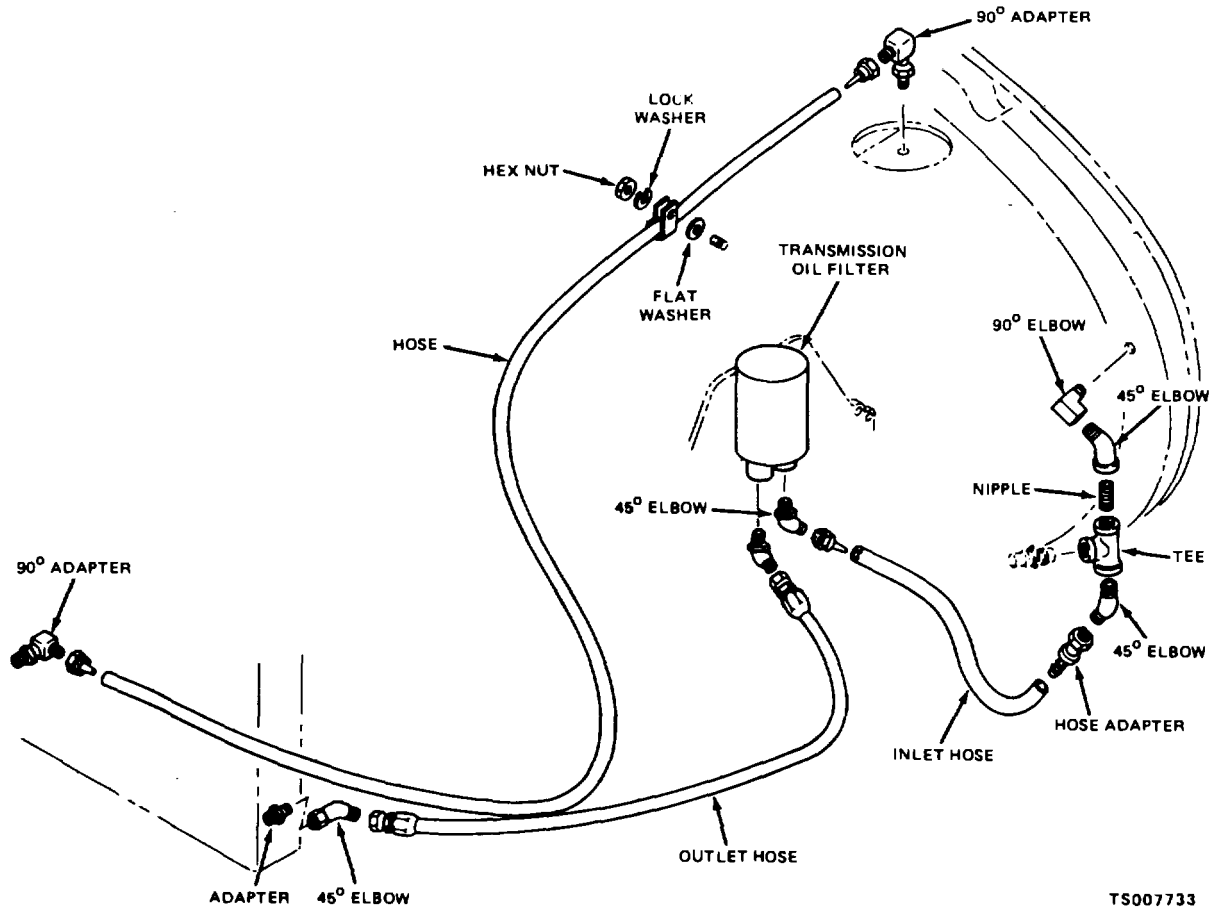

Figure 4-60. Transmission Oil Filter, Lines and Fittings, Removal and Installation
b. Removal and Disassembly. Remove and disassemble the transmission oil filter and lines as shown in figure 4-60.
(4) Inspect the hoses for cracks, deterioration, abrasions, and damaged threads; replace damaged hoses.
(5) Inspect all other parts for cracks, distortion, and damaged threads; replace damaged parts.
d. *Reassembly and Installation.* Reassemble and install the transmission oil filter and lines as shown in figure 4-60, using a new filter element and gasket. After installation, start up the engine and check carefully for oil leaks. Repair any leaks and add oil as necessary.